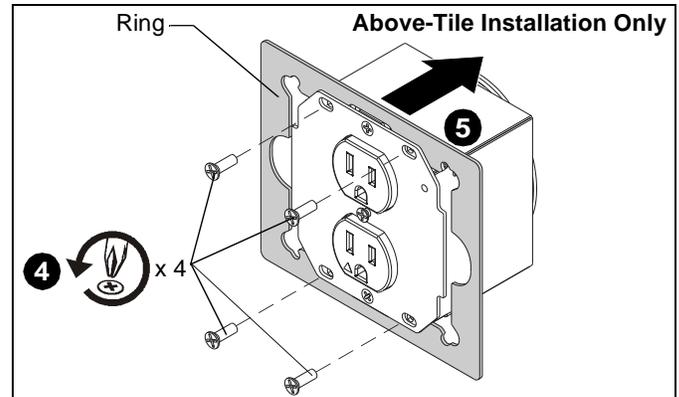

Figure 7
- Remove four Phillips screws from ring attached to outlet box. (See Figure 7)
- Remove and discard ring from outlet box. (See Figure 7)